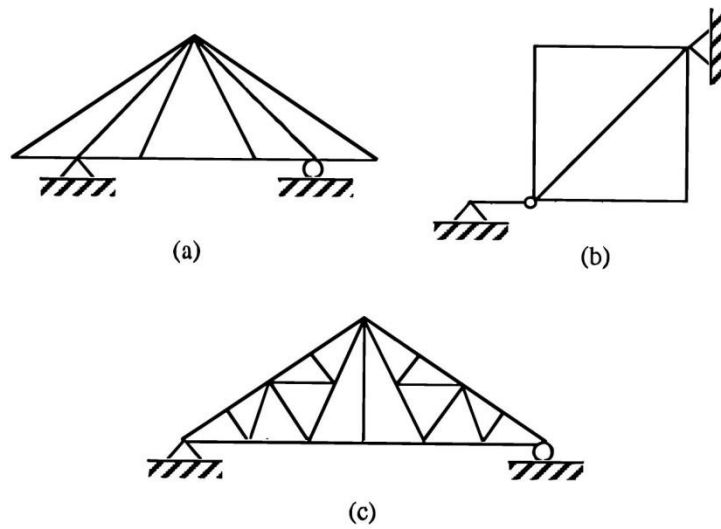

Fig. 7
Q.7 Consider each of the plane trusses shown in Fig. 7 and determine if it is statically determinate. If it is not, is it unstable or statically indeterminate?